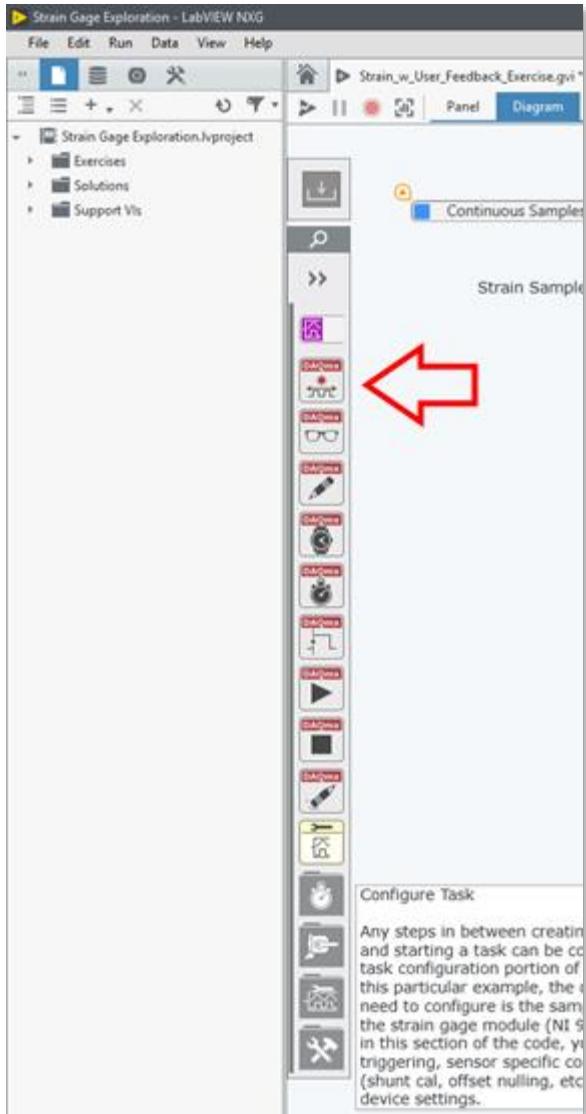
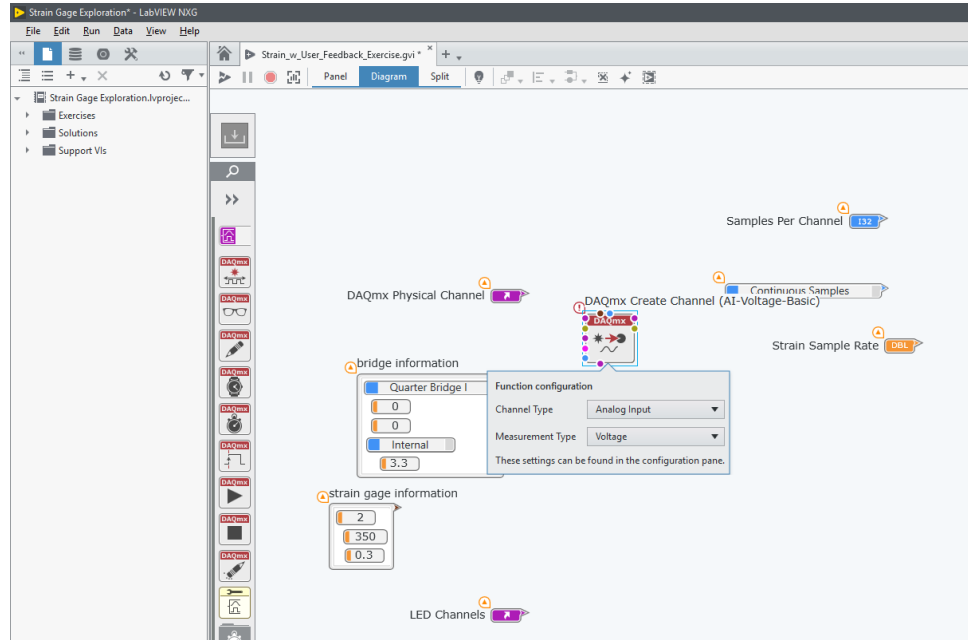

Figure 5-12 Pinning a palette enables you to click elsewhere in your code with the palette still visible.
Figure 5-13 The DAQmx Create Channel VI establishes communication with your DAQ device.
25. To start, drag the **NI-DAQmx Create Virtual Channel** (arrow in Figure 5-12) and place it in the position shown in Figure 5-13.
26. When this VI is placed on the diagram, a configuration menu opens in the right-hand configuration pane to specify the desired Channel and Measurement Type as shown in Figure 5-13. By default, the VI is configured to create a simple analog input voltage. To configure this for strain, click on the **Measurement Type** drop down arrow and select **Strain**. The Sensor Type field that appears should be configured for Strain Gage by default.
11. When this VI is placed on the diagram, a configuration menu opens to specify the desired Channel and Measurement Type as shown in Figure 5-13. By default, the VI is configured to create a simple analog input voltage. To configure this for digital output, click on the Measurement Type drop down arrow and select **Digital Output**.